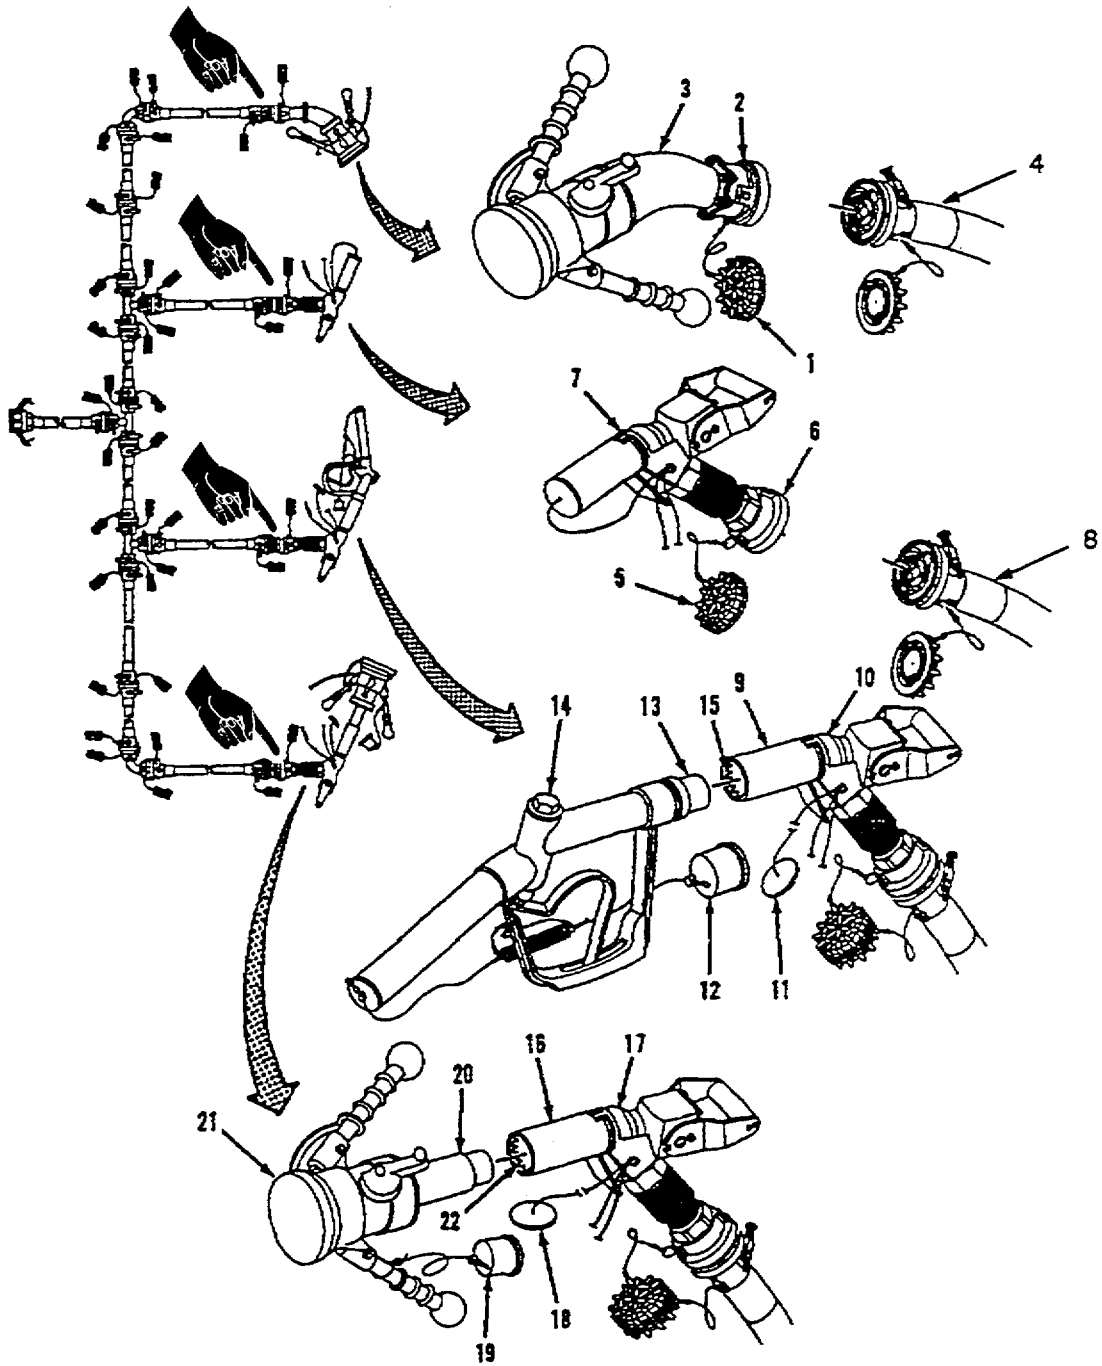

Figure 2-11. Fuel Nozzle Installation.
- h. **Fuel Nozzle Installation.** Refer to figure 2-11. Variations in fuel system layout are permitted to meet your specific mission requirements. All of the same type fuel nozzle or a combination of different type nozzles may be used in the fuel system. The following paragraphs provide instructions for connecting one of each type nozzle.